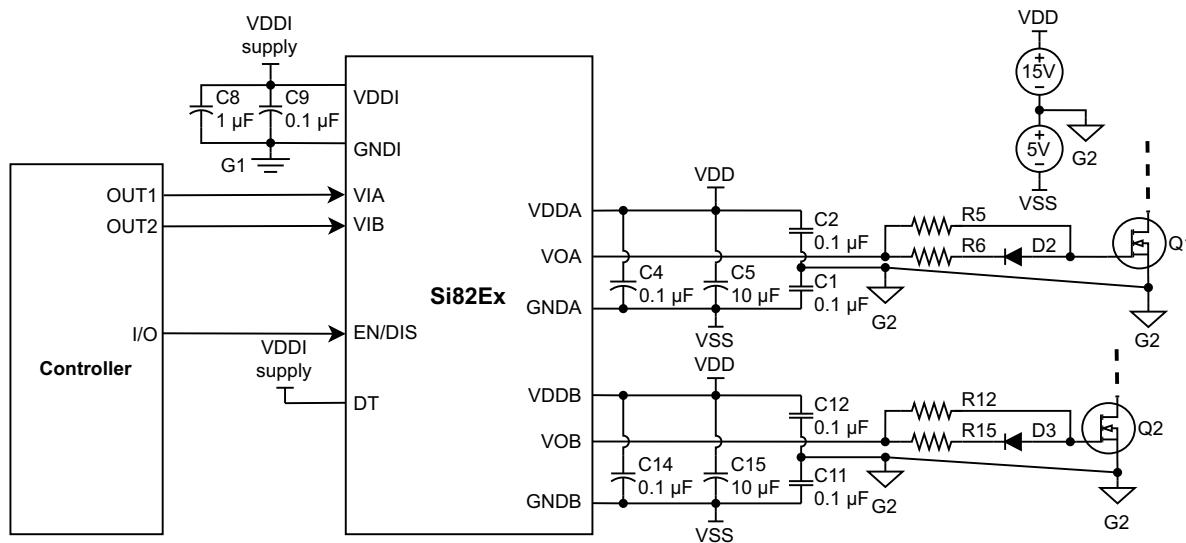

Figure 19. Dual Low-Side Driver Application Circuit
**Figure 19, “Dual Low-Side Driver Application Circuit,”** below depicts the circuit for driving dual low-side FETs. When the dead time pin (DT) is tied to the logic input supply (VDDI), the Si82Ex device operates as a dual gate driver without overlap protection or dead time insertion. In this dual driver mode, the Si82Ex device can be used for high-side/low-side, dual high-side, dual low-side, or any circuit topology. However, the controller is responsible for providing overlap protection and dead time insertion. In the dual low-side circuit topology depicted below, the +15 V and –5 V sources are shared by gate drivers A and B to generate bipolar  $V_{GS}$  outputs. For a dual high-side application, Driver A and B cannot share the same power supply and will require the individual isolated power supplies, even if the  $V_{GS}$  output is unipolar.